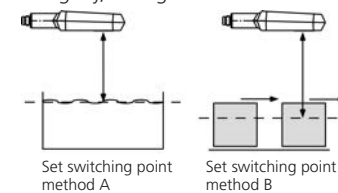

Fig. 3: Setting the switching point for different directions of movement of the object
- If the object to be scanned moves into the detection area from the side, the »Set switching point +8 % – method B« Teach-in procedure should be used. In this way the switching distance is set 8 % further than the actual measured distance to the object. This ensures a reliable switching distance even if the height of the objects varies slightly, see figure 3.